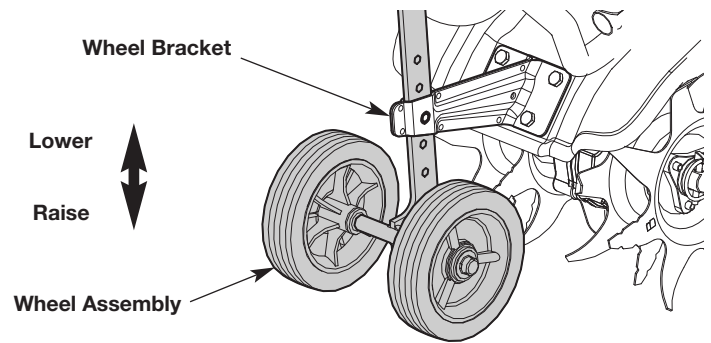

Fig. 1
1. Insert the wheel assembly into the wheel bracket. The "J" shape of the wheel assembly should point away from the unit (Fig. 1).
2. Align the hole in the wheel bracket with the desired hole in the wheel assembly (Fig. 1).
3. Align the hole in the wheel bracket with the desired hole in the wheel assembly (Fig. 1).